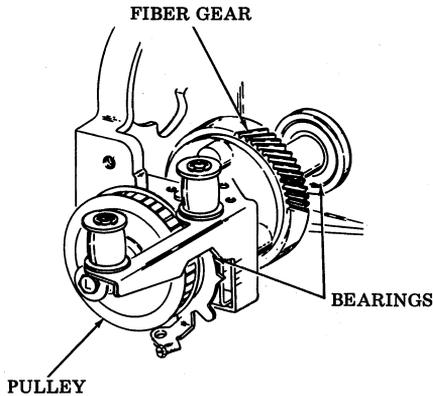

Fig. 28
5.01 Check fiber gear on crossshaft for worn or chipped teeth. Check for red oxide around bearings. (See Fig. 28.) At the bearings, check that inner race does not turn on shaft. If it does, replace shaft. Check for play in shaft by lifting up and down. Check for worn, dented, or pitted teeth on right pulley (Fig. 28). If any of these conditions exist, replace printer.